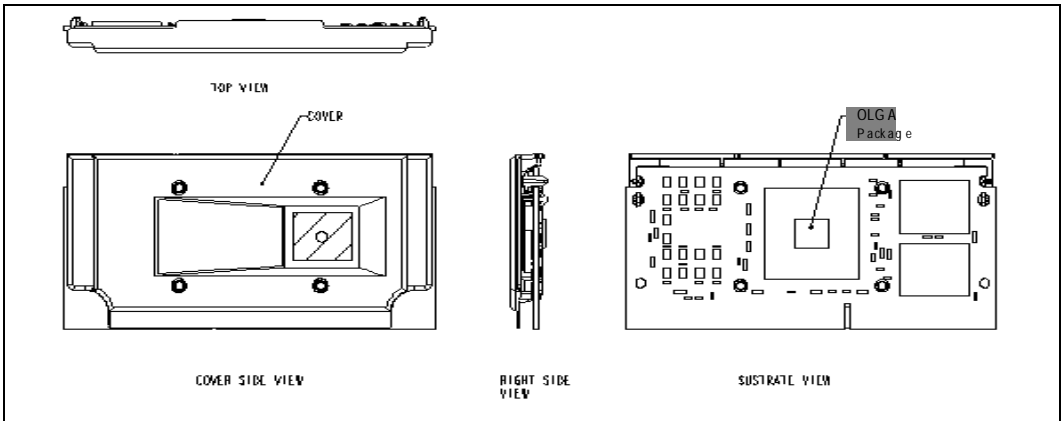

Figure 1. Single Edge Contact Cartridge 2 Package
- Figure 1. Single Edge Contact Cartridge 2 Package7
handle the increasing demands for power from businesses and consumers interested in the new world of multimedia (see Figure 1).